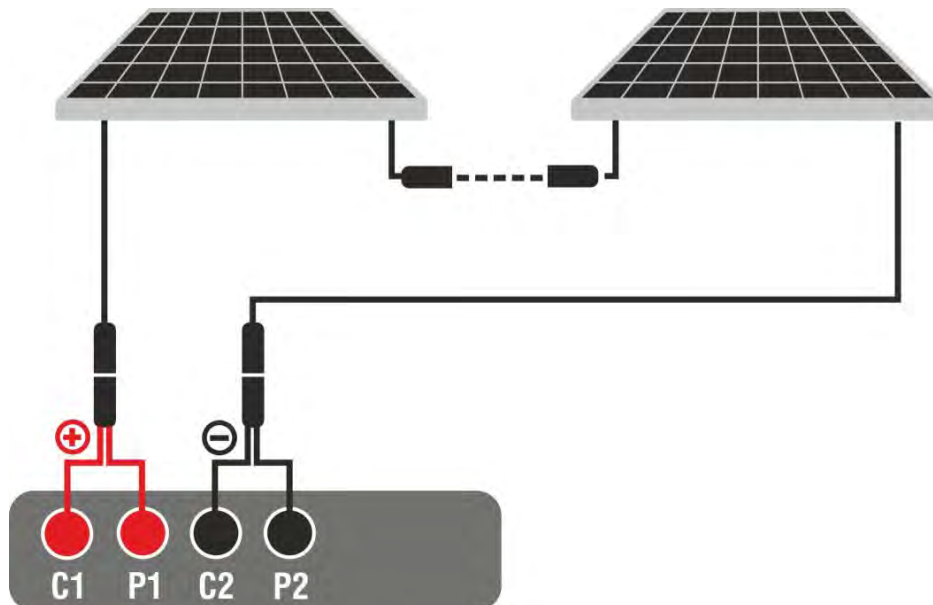

Fig. 45: Connection for IVCK tests without remote unit
3. Connect the instrument to the module/string being tested as shown in Fig. 45. In particular, connect the Negative pole of the module/string to the **P2, C2** terminals and the Positive pole from the module/string to the **P1, C1** terminals